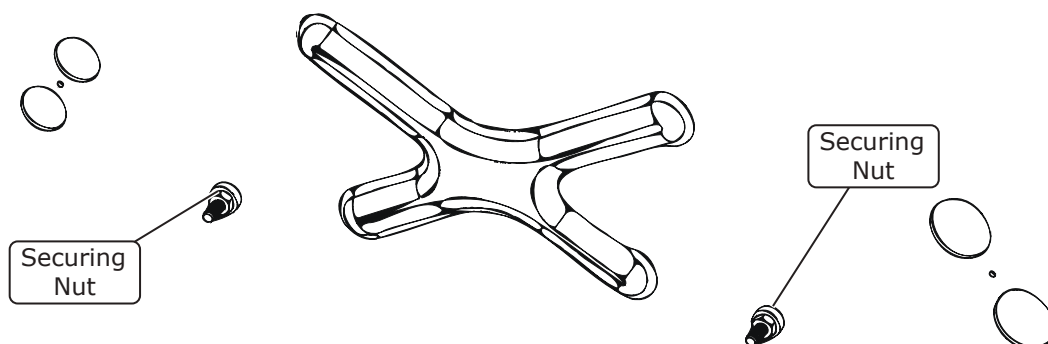

Figure 4
4. Remove all (6) bolts from the upright stand off bracket (See Photo 2, below). Remove bracket and discard.
5. Remove the (2) upper most bolts securing the heater core case to the vehicles cowl (See Photo 3, below).
6. Detach the (2) mounting ears from the heater core case by removing the single screw keeping it retained. Discard brackets (See Photo 4, below). **NOTE: This step is necessary to allow clearance to remove from the dash.**
7. From the engine compartment side of the firewall, locate the (2) nuts keeping the heater core case against the firewall and remove (See Figure 4, below). Discard hardware.